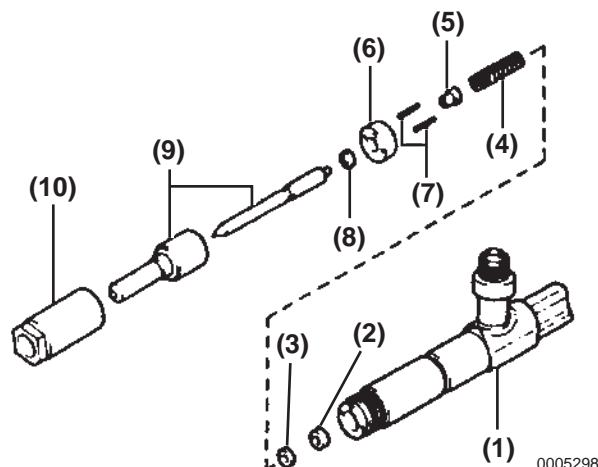
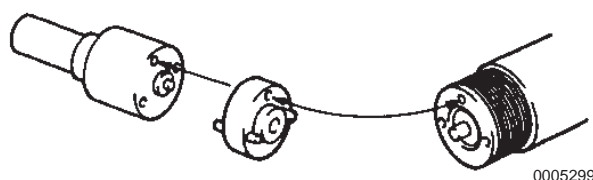

Figure 6-36
Figure 6-37
1. Assemble the nozzle assembly as shown in **Figure 6-36**. **NOTICE:** Exclude the No. 1 pressure spring and pressure pin. Align the holes of the nozzle body, tip packing and nozzle holder body (**Figure 6-37**).